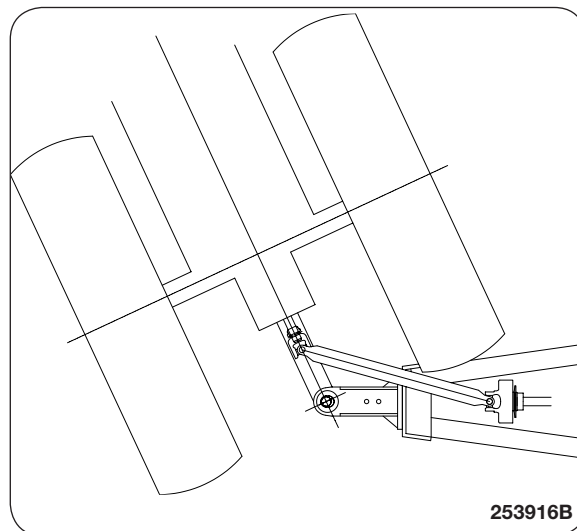

Fig. 3
6. Position the tractor to obtain the tightest turning angle, relative to the cart (Fig. 3).